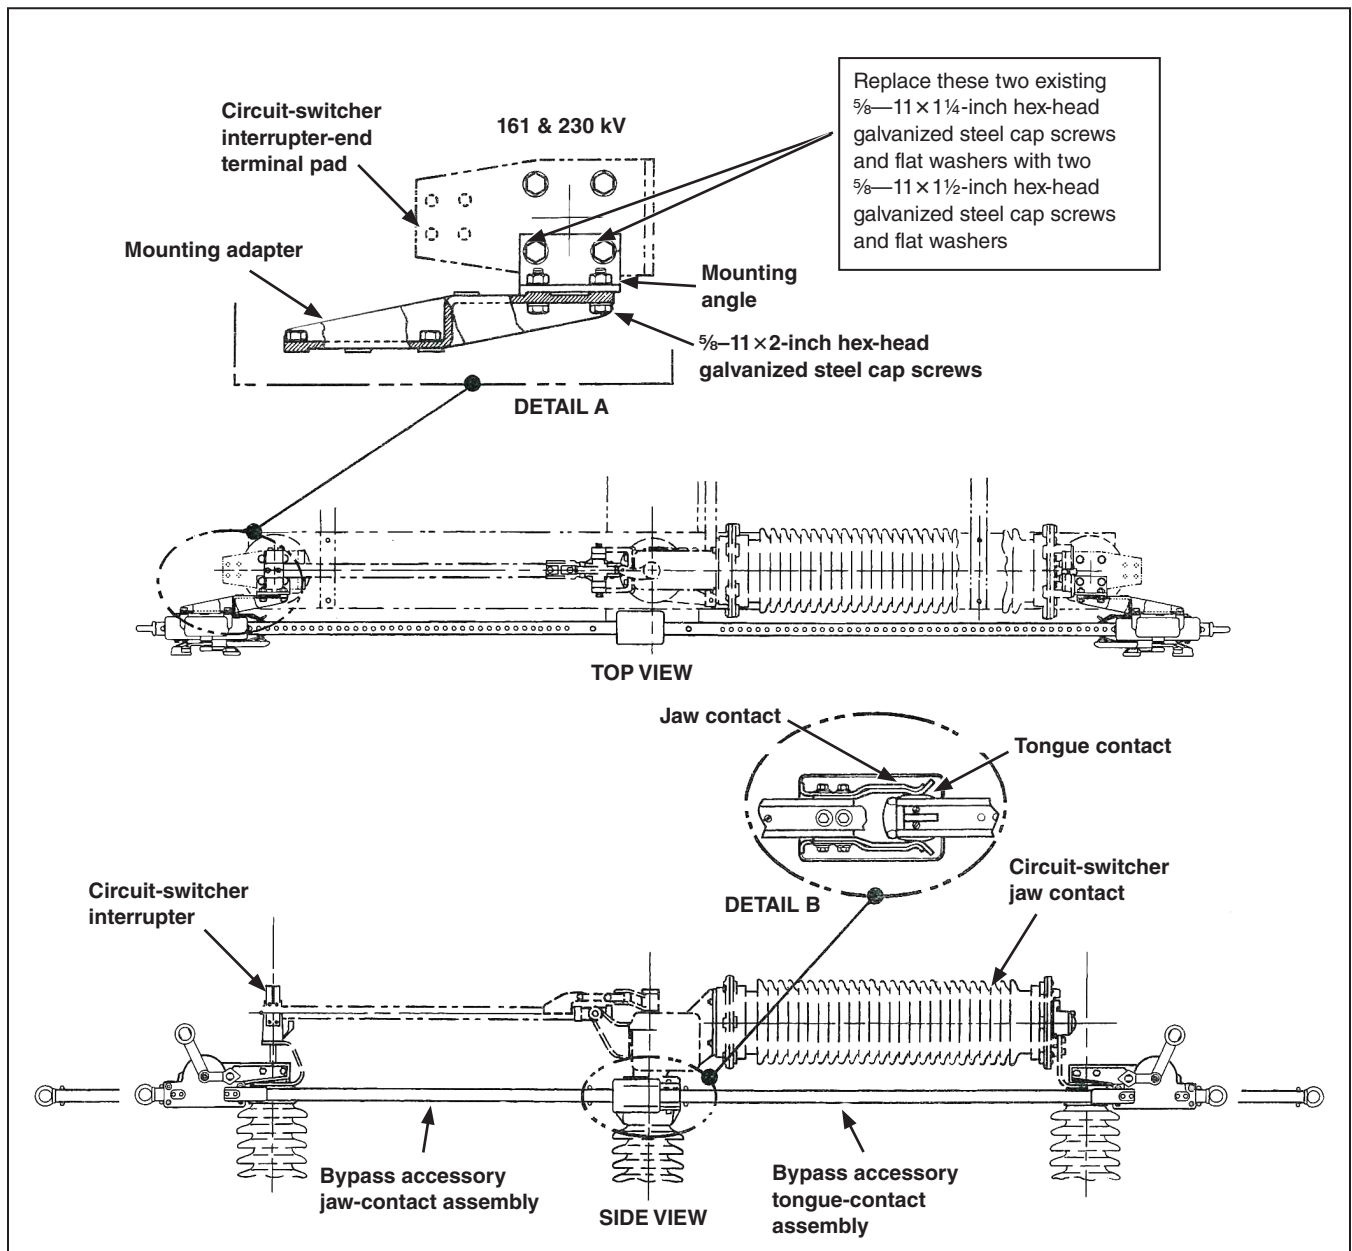

Figure 3. Installing a bypass accessory on a pole-unit of a Model 2010 Series 2000 Circuit-Switcher rated 161 kV or 230 kV.
- (a) Remove and discard the two existing $\frac{5}{8}$ -11 \times 1 $\frac{1}{4}$ -inch hex-head galvanized steel cap screws and flat washers indicated in Detail A in Figure 3 used to attach the circuit-switcher jaw-contact terminal pad to its insulator. Remove only the two cap screws indicated; do not loosen the other two cap screws at the jaw-contact terminal pad.
STEP 3. Refer to the instructions for bypass-accessory operation in the “Operation” section on pages 15 through 17. Move the blades toward their **Closed** positions to check blade-contact entry. The blades should be in line in both the horizontal and vertical planes, and the tongue contact assembly should enter the contact fingers of the jaw-contact assembly smoothly and on-center as shown in Detail B in Figure 2 on page 8 or in Detail B in Figure 3 on page 9, as appropriate. If readjustment is necessary, sight along the blades to determine whether repositioning of the jaw-contact assembly and/or the tongue-contact assembly is required. Make the adjustments directed in Step 4. (Any minor horizontal misalignment is somewhat simpler to correct at the tongue-contact assembly end.) Do not use shims to attain alignment.